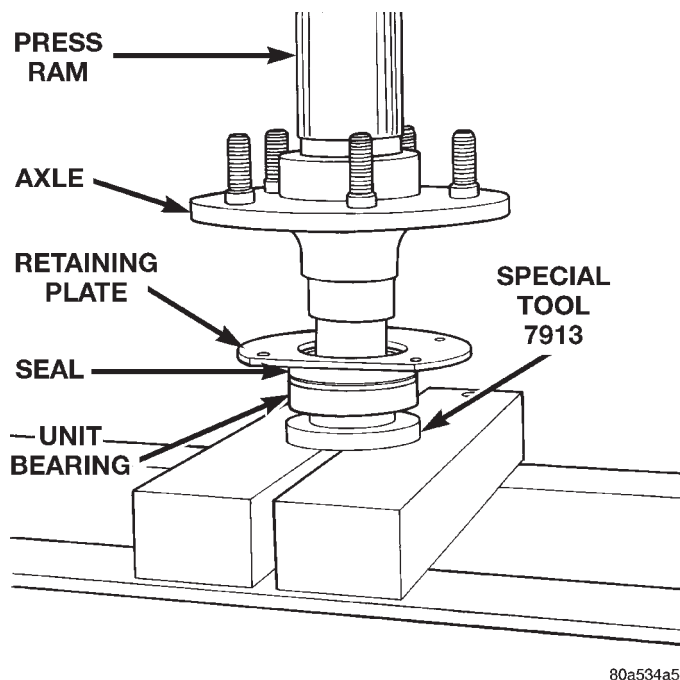

Fig. 16 Press Bearing On Axle
(7) Using Installer 7913 and shop press, press bearing onto axle shaft (Fig. 16).